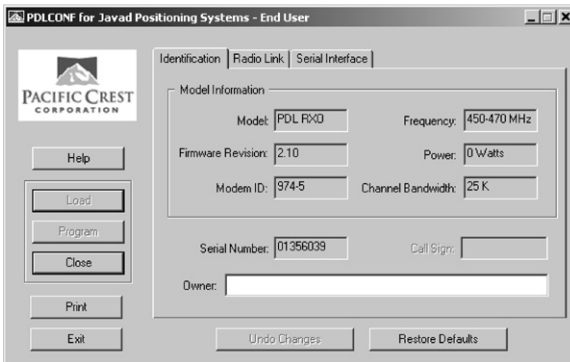

Figure 2-25. PDL Identification Tab
9. On the Identification tab, type Owner information (Figure 2-25).